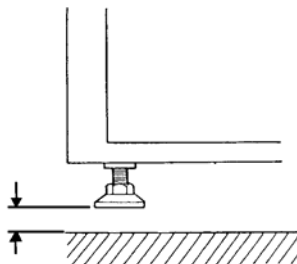

Figure 2-4
4. Adjust the printers leveling feet (4) upward from the base plate. Allow a minimum of 20mm of clearance for the printer to move unobstructed down the ramp. (See Figure 2-4)